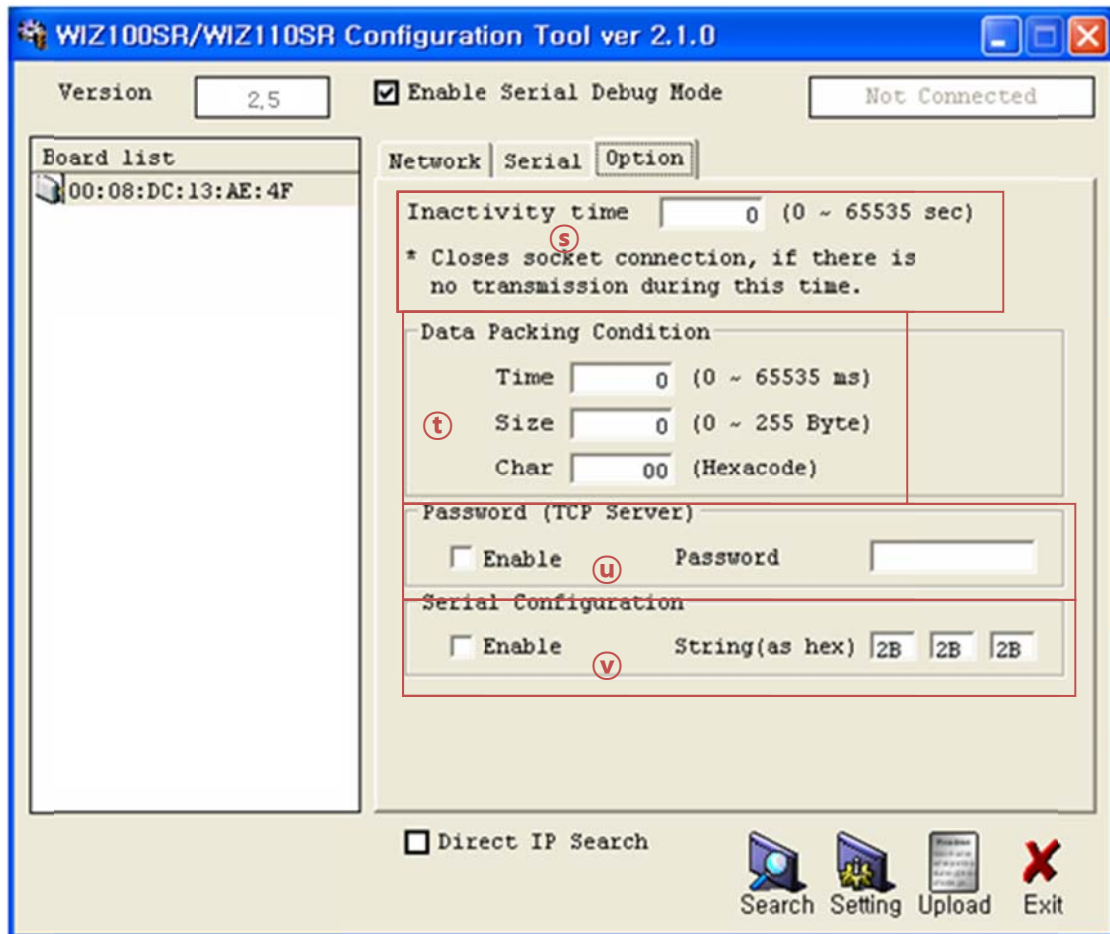

Figure 10. Configuration Tool (Option Config.)
3. As shown in Figure 10, select Option tab and check 'Enable' combo box of "Password" menu.
④Serial Configuration:
- ① Select a module shown in "Board list", and click "Upload" button.
- 👉 Before uploading through Ethernet, you should set the network information of WIZ100SR first by Configuration Tool program as shown above Fig 10. By using Ping test, you can check if network is correctly configured.
- ② When the window as shown below Figure is displayed, select file for upload and click "Open" button.